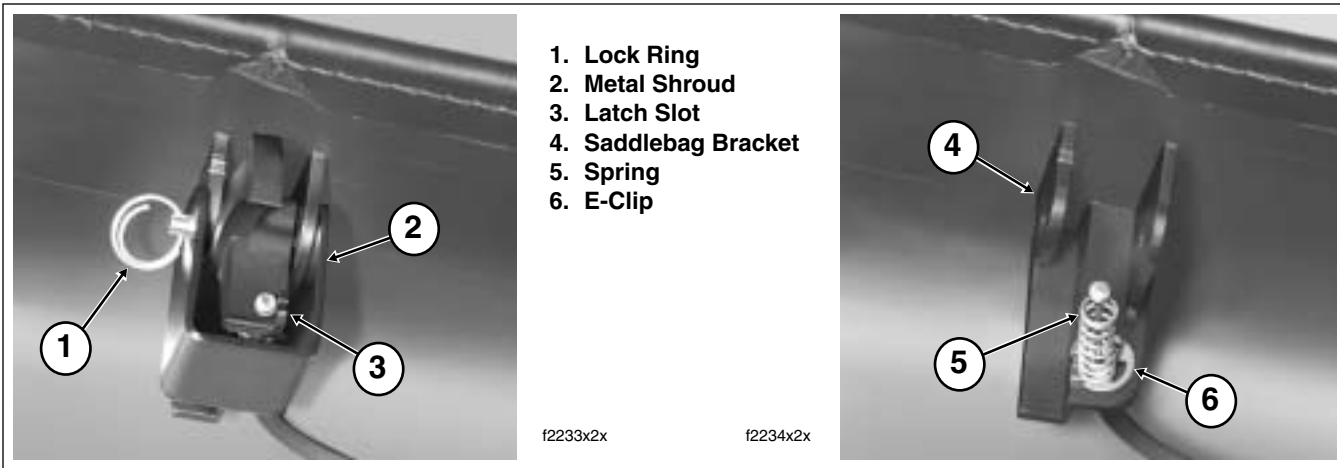

Figure 2-141. Remove Latch Assembly
5. Moving to inboard side of saddlebag lid, remove lock ring from hole at end of latch pin. See left frame of Figure 2-141.
8. Remove spring from cable. See right frame of Figure 2-141.
10. Install lock ring into hole at end of latch pin. See left frame of Figure 2-141.
7. Pull up on cable ball end and install spring on cable. See right frame of Figure 2-141.
2. Moving to inboard side of saddlebag lid, remove lock ring from hole at end of latch pin. See left frame of Figure 2-141.
3. Install lock ring into hole at end of latch pin. See left frame of Figure 2-141.